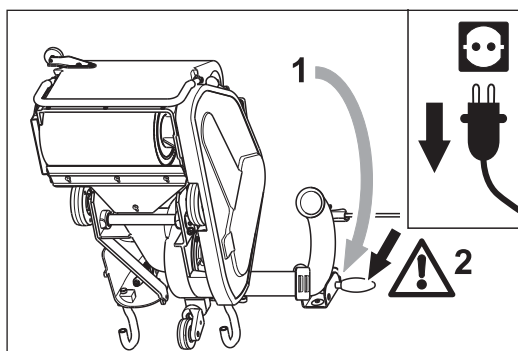

Fig. 43 Tilt the machine backwards (1). Ensure that the machine is standing securely (2)!
- 3 Tilt the machine backwards over the safety guards so that you can see the wheel bearings (Fig. 43, 1). **Ensure that the machine is standing securely (Fig. 43, 2)!**
- 6 Tilt the machine backwards over the safety guards (Fig. 43, 1). **Ensure that the machine is standing securely (Fig. 43, 2)!**